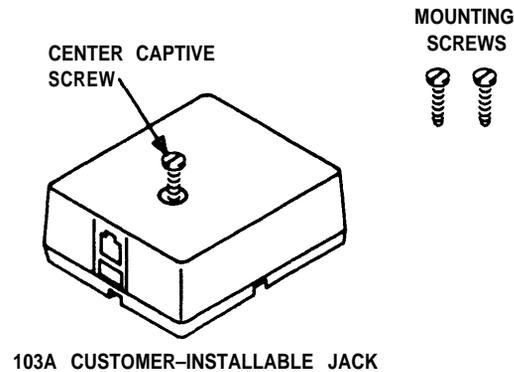

Figure 15
- ❑ 1. Get two customer-installable jacks and packages of mounting hardware from your shipment. Figure 15 shows what you will need.